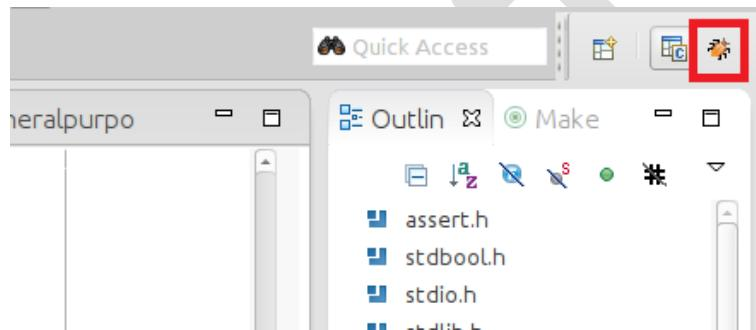

Figure 8-37. Switching to the DS-5 Debug Perspective
20. Switch to the *DS-5 Debug* perspective, as shown in Figure 8-37.